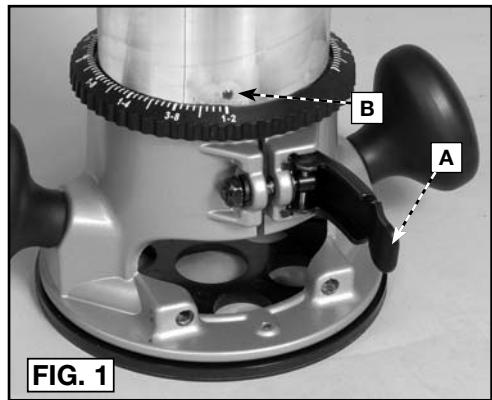
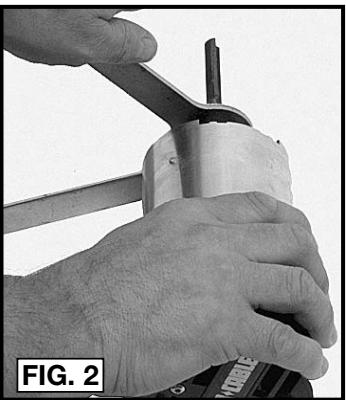

FIG. 1
FIG. 2
- (a) Open the clamp (A) Fig. 1.
- (b) While holding the base, turn the power unit COUNTER-CLOCKWISE until the lower pin (B) in the motor housing is disengaged from groove in base.
4. Place one wrench on the flats of the chuck with the opposite end of the wrench resting on the bench to your left (Fig. 2).
1. Open the clamp (A) Fig. 1 and set the power unit in the base unit.
2. Align the lower pin (B) Fig. 1 of the power unit with the groove in the base.